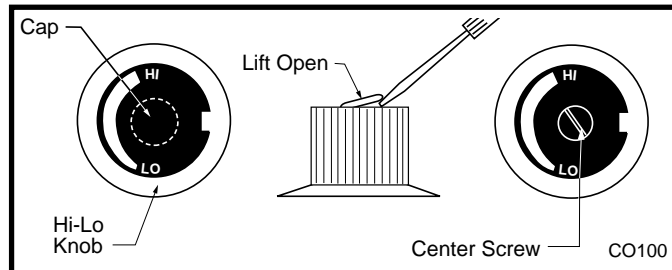

Fig. 52 Remove center screw from Hi-Lo knob.
5. Remove cap from Hi-Lo knob. This can be accomplished by lifting the plastic cap off the screw. (Fig. 52)
6. Remove the screw from center of Hi-Lo knob with small screwdriver turning counterclockwise. (Fig. 52)